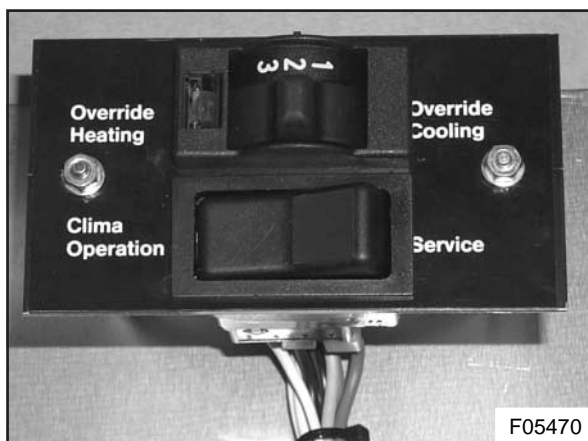

Figure 3: OEM fitted override/service switch panel
- 2) In the HVAC junction box, remove the OEM fitted override/service switch panel (see Figure 3) from its supports, separate the plugs from the switches and remove the switches from the panel. Discard the panel.